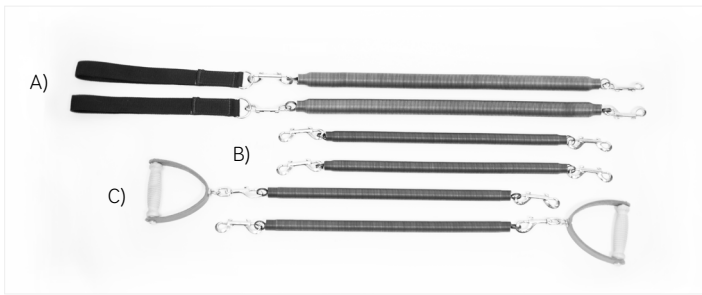

Figure 3: A) Leg Springs (the longest springs)
- Attach the Arm, Leg, Roll Back Bar, Push-through Bar and Trapeze Bar springs to their appropriate locations. See Figure 1 for locations of springs. See Figure 3, 4 for pictures of springs.